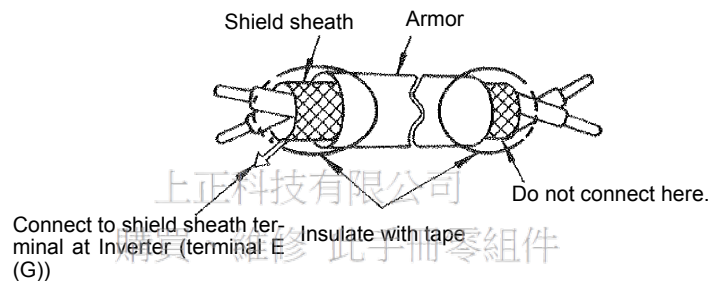

Fig 2.20 Processing the Ends of Shielded Twisted-pair Cables
- Use shielded twisted-pair cables for control circuits to prevent operating faults. Process cable ends as shown in *Fig 2.20*.
- Connect the shield wire to terminal E (G).